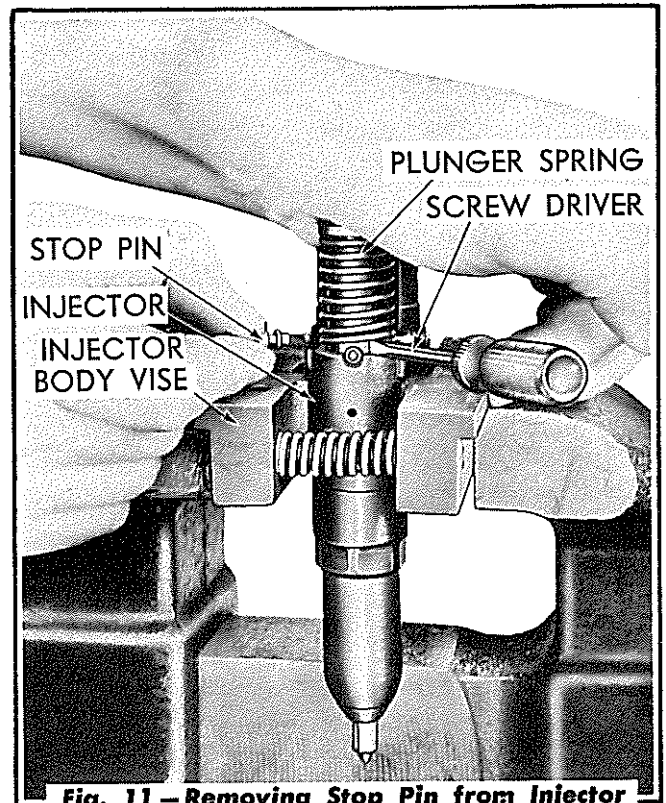

Fig. 11 — Removing Stop Pin from Injector Follower
2. Using a screwdriver as shown in Fig. 11, raise the follower spring, at the same time holding down on top of the follower, and withdraw the stop pin. Allow the spring to raise to its free length position after the pin is removed.
- c. With the flat of the plunger in line with the flat in the gear, lower the plunger and the plunger follower into the injector. Line up the slot in the plunger follower with the hole in the injector body for the follower stop pin. Insert a screwdriver or a spring lifter tool beneath the lower end of the follower spring, push down on the top of the plunger follower, and, raising the spring at the same time with one hand; insert the follower stop pin with the other hand (refer to Fig. 11). The stop pin will slip into place as soon as the slot in the plunger follower and the hole in the injector body are in alignment. When the spring is released, it will lock the stop pin in place.